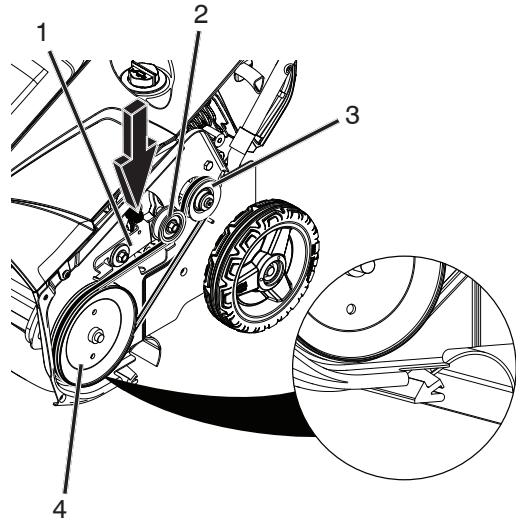

Figure 35
4. Install the new auger v-belt and drive pulley, routing it as shown in Figure 35.
**NOTE:** Route the new auger v-belt first around the engine pulley, then the idler pulley, and finally around the drive pulley while pressing down on the front of the idler arm. (Figure 35).